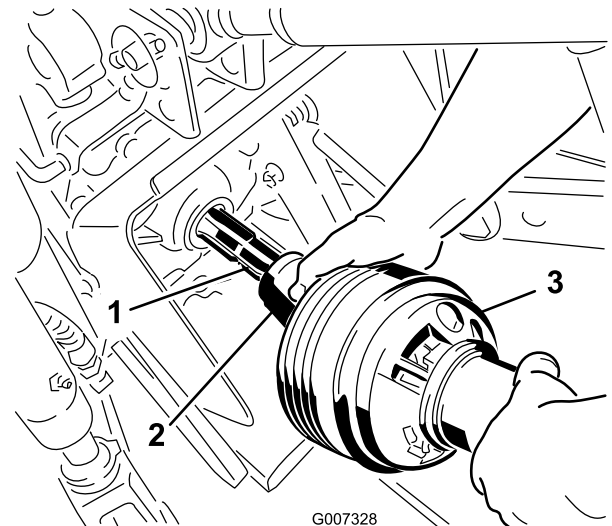

Figure 18
3. Connect the PTO shaft to the tractor PTO shaft (Figure 18).